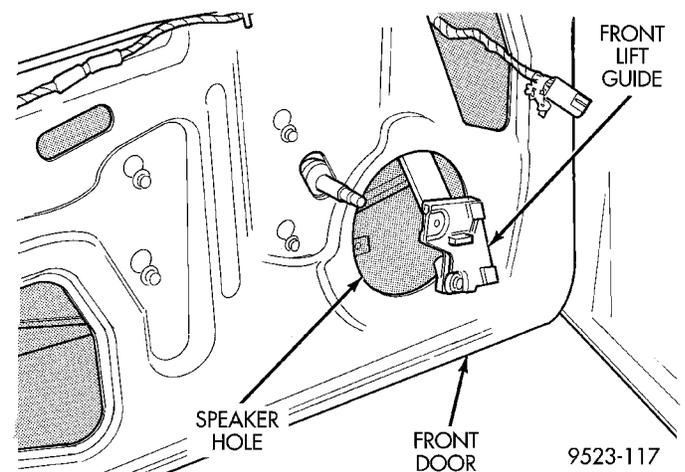

Fig. 25 Front Guide
- (6) Remove front vertical guide bar through speaker hole in inner door panel (Fig. 25).